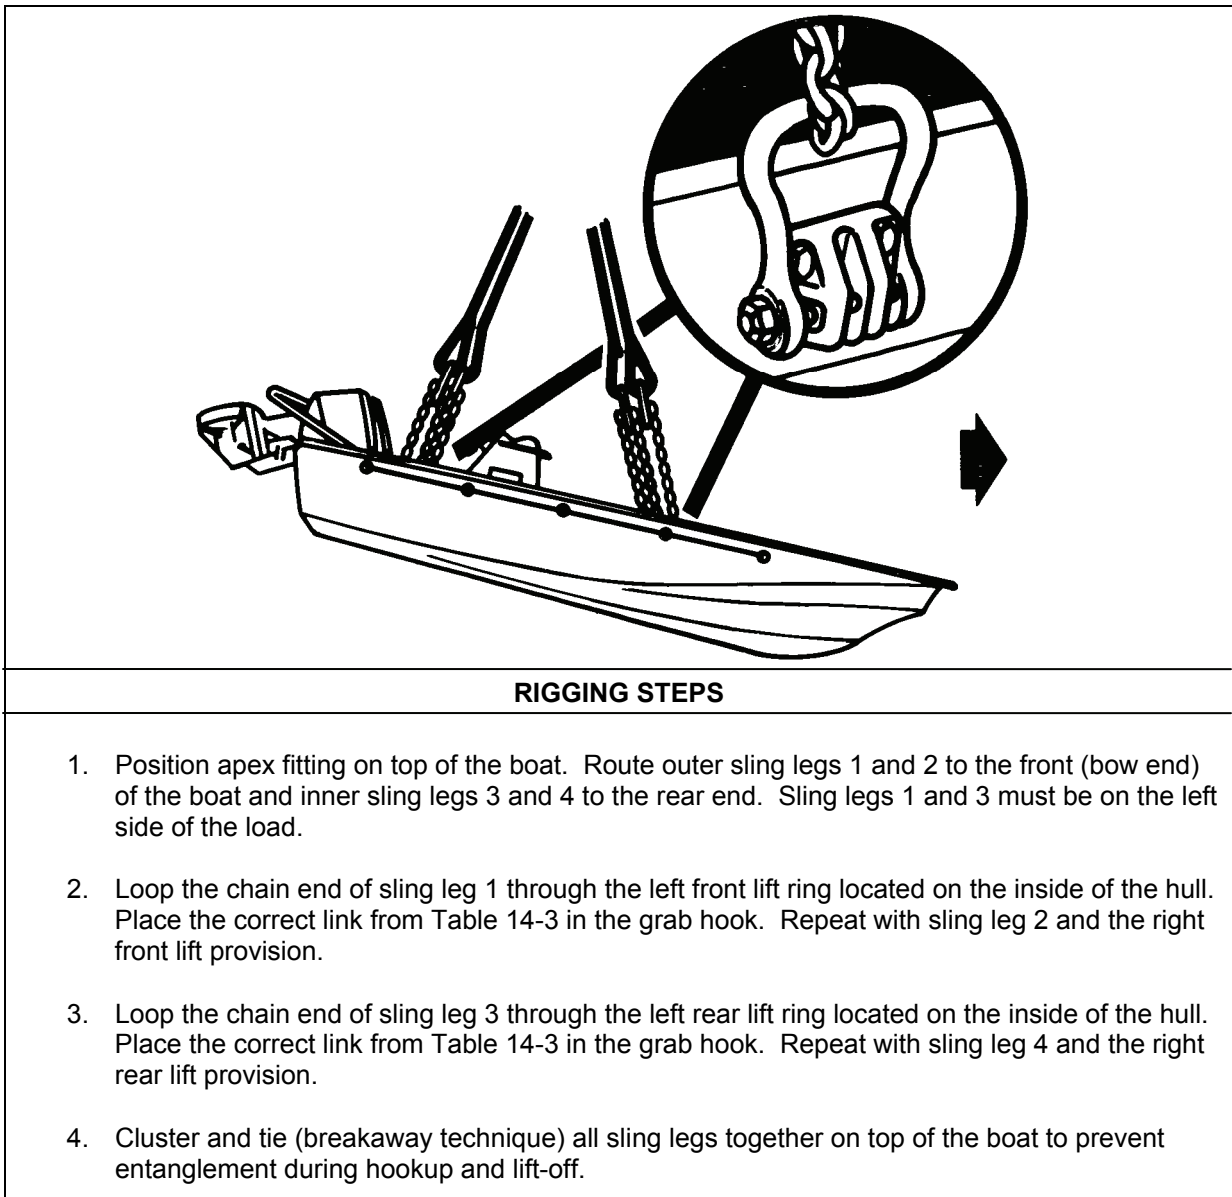

Figure 14-3. Rigid Raiding Craft
- **Rigging.** Rig the load according to the steps in Figure 14-3.